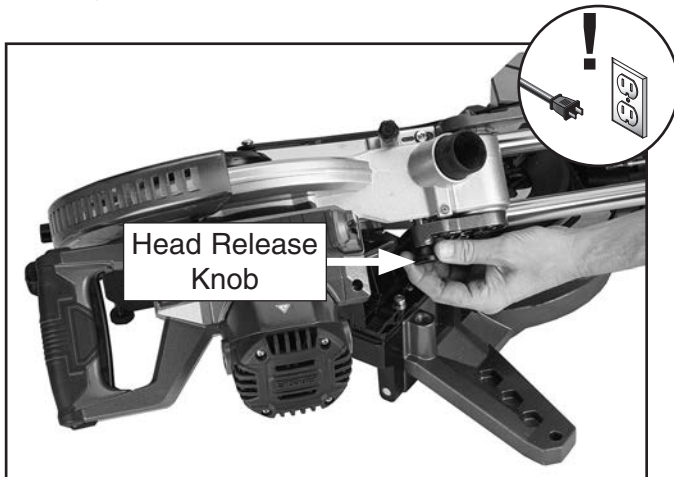

Figure 40. Locking cutting head down.
2. Lower cutting head until blade reaches past table inserts. While holding in this position, push head release knob to lock (see **Figure 40**).